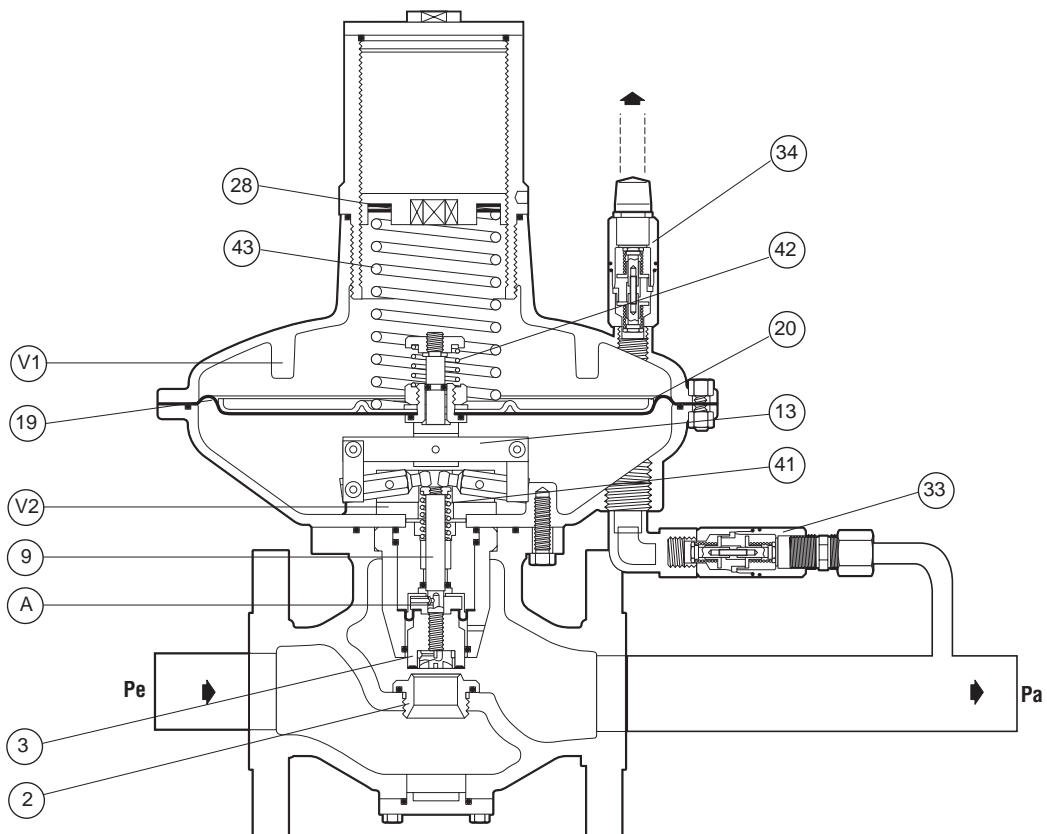

Fig. 1
1.2 DIVAL 160-250 OPERATION (FIG. 1)
In the absence of pressure, the obturator 3 is maintained in the open position by the spring 43 (fig. 1).
Versions 160 and 250 are provided with two antipumping devices 33 and 34 (fig. 1) whose function is to slow down the gas/air inflow/outflow in the head during the transitory phases only, to prevent possible phenomena of oscillation in the regulated pressure.